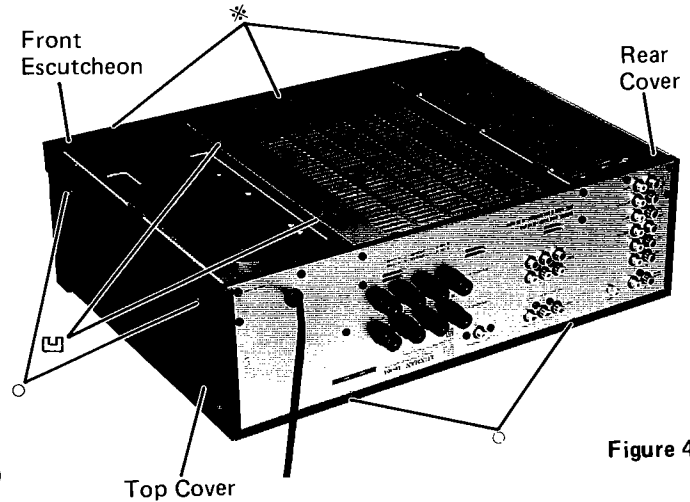

Figure 4
- (2) Remove two screws marked "☐" as shown in Figure 4.
- (3) Disconnect all wires from the AC outlet.